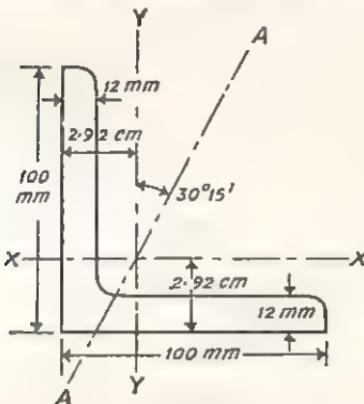

Fig. 67
13. A $100 \text{ mm} \times 100 \text{ mm}$ angle as shown in Fig. 67 is used as a freely supported beam with one leg vertical. $I_x = I_y = 207 \text{ cm}^4$. When a bending moment is applied in the vertical plane YY the mid-section of the beam deflects in the direction AA' . Calculate the second moments of area of the section about its principal axes. Find also the bending stress at the upper corner of the section if the bending moment is 400 kg m . (Lond. Univ.)